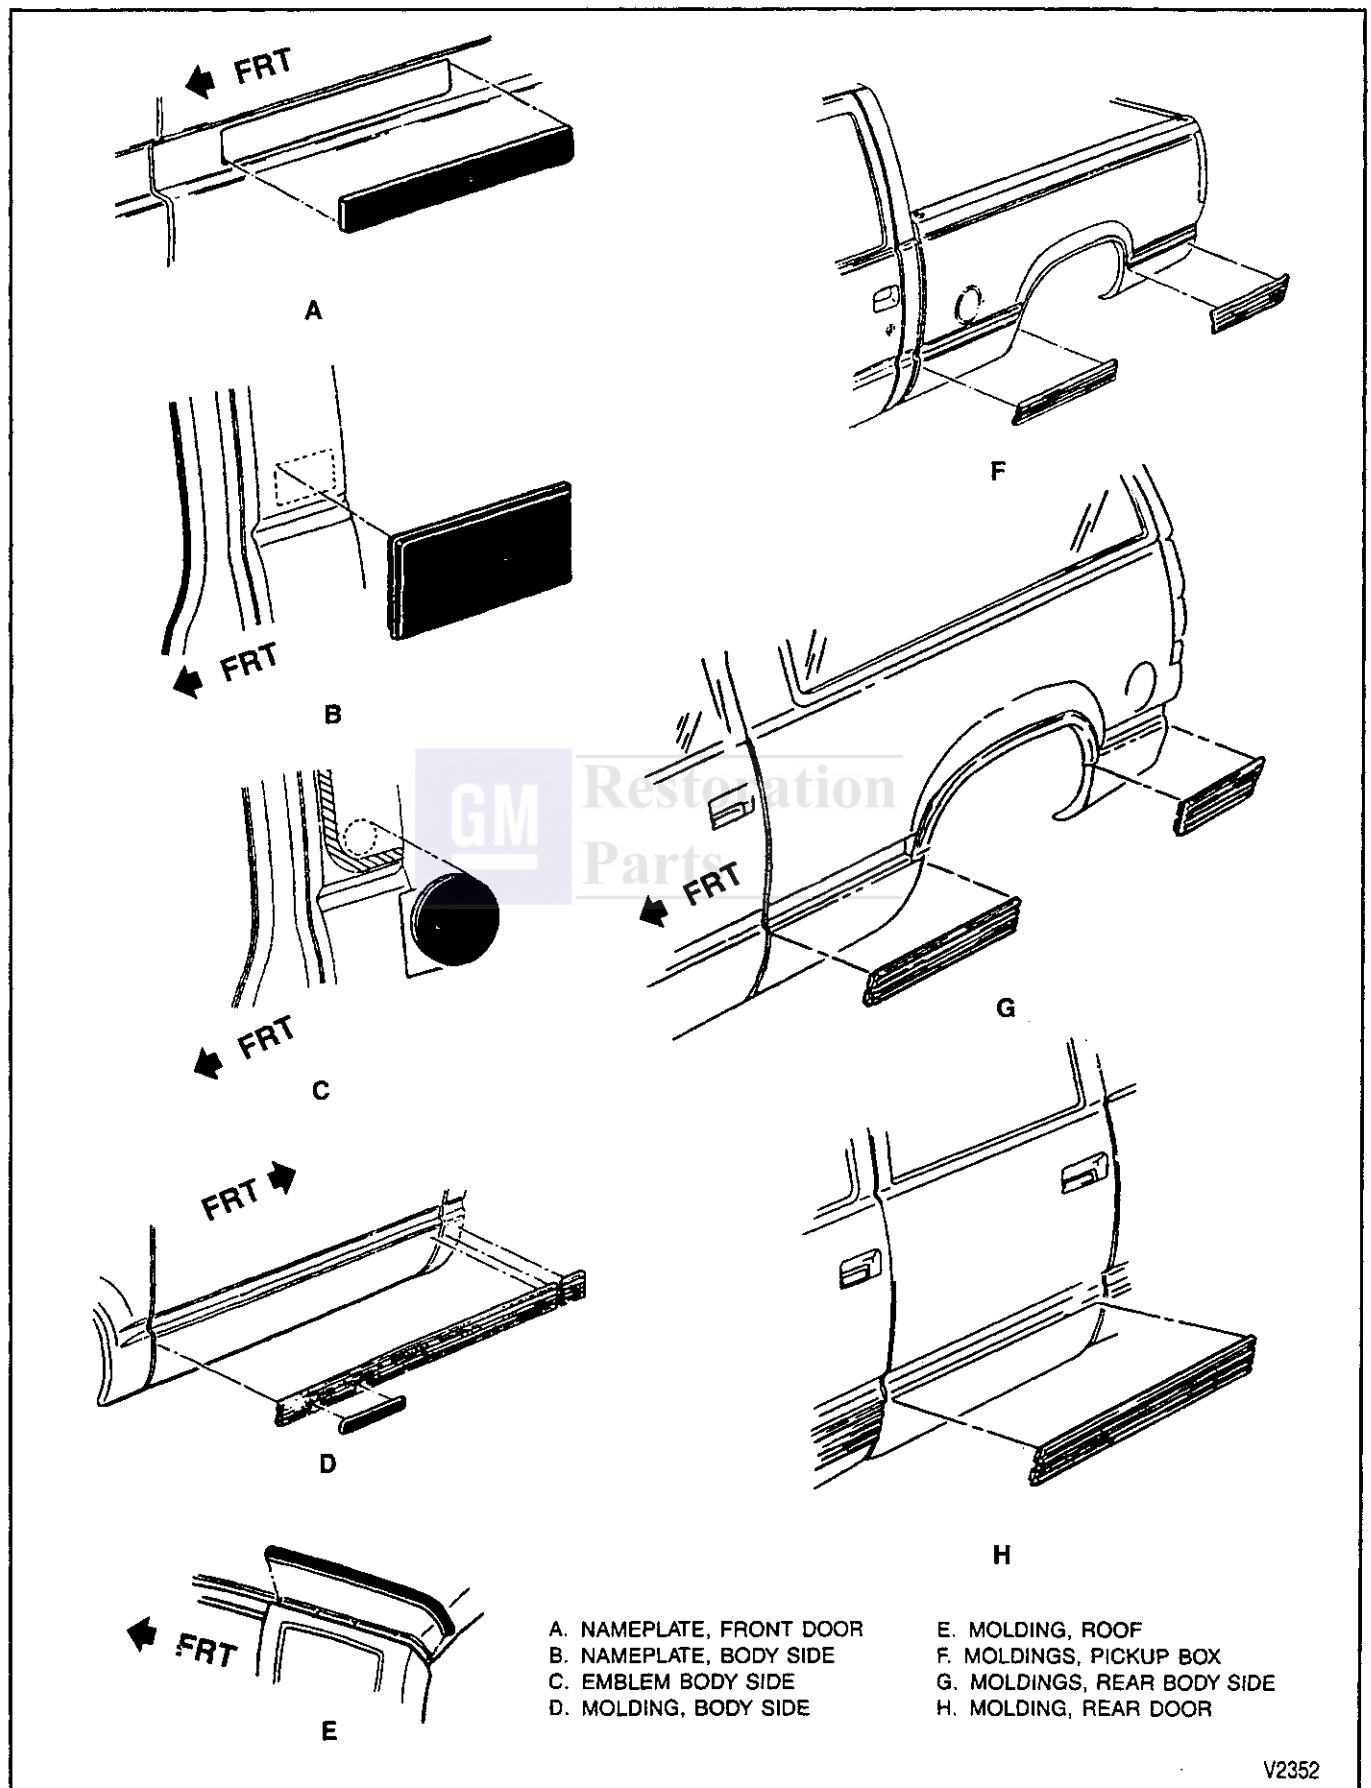

Figure 27—Moldings and Emblems
- Clean the area where the replacement item is to be mounted (figure 27). Use a suitable solvent such as flash naphtha or a mixture of 50 percent isopropyl/alcohol and 50 percent water. Dry the area thoroughly.